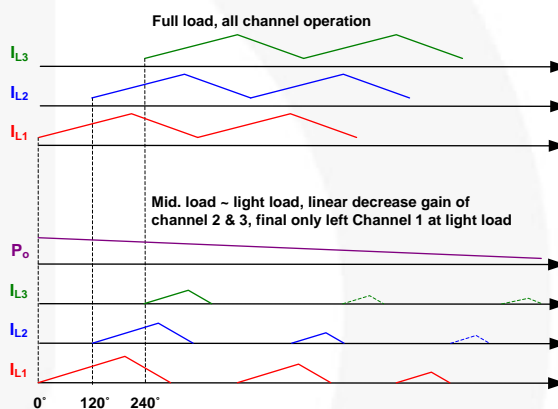

Figure 13. Phase and Gain Change of CM Control
Table 0 explains the phase and gain change of each channel when the PFC operates at various loads. The loading decreases the gain to the slave until it is disabled. The phase of Channel Management (CM) mode doesn't change when channel 3 is disabled. The behavior is shown in Figure 13.